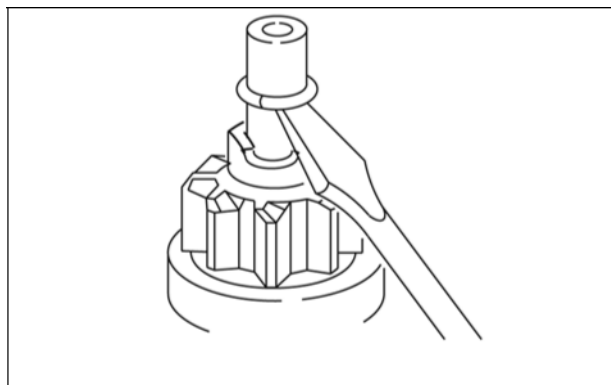

Figure 53
2. Assemble new lower retainer to shaft (Figure 53).